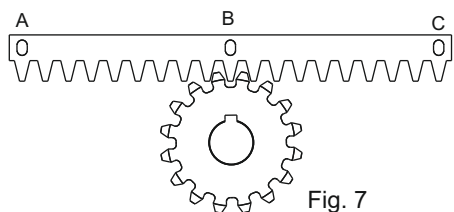
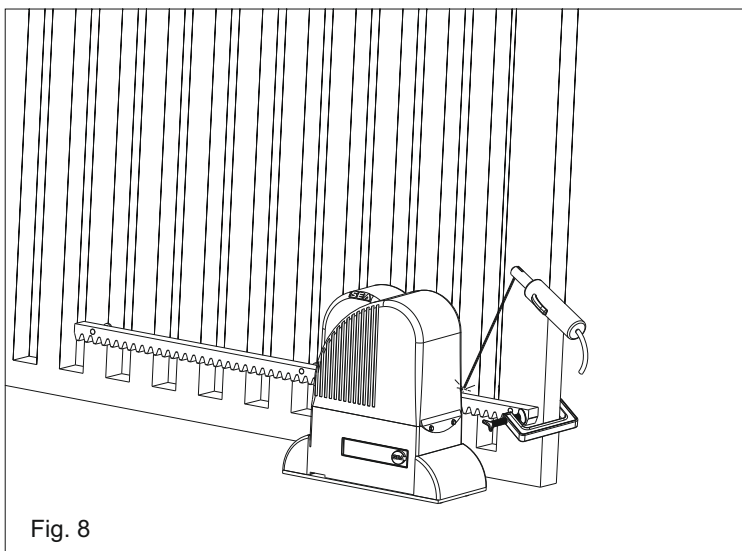

Fig. 7
Fig. 8
**5.3.** Lean the gear rack element on the toothed pinion of the motor so that it results parallel to the ground sideway of the gate, place it as shown in Fig. 7 and electrically weld the central pawl B to the gate structure (Fig. 8).